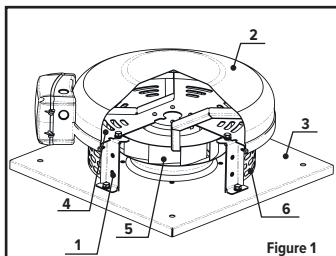

Figure 1
- make sure that the impeller rotates easily and smoothly (without jamming) (see Figure 1, item 5);